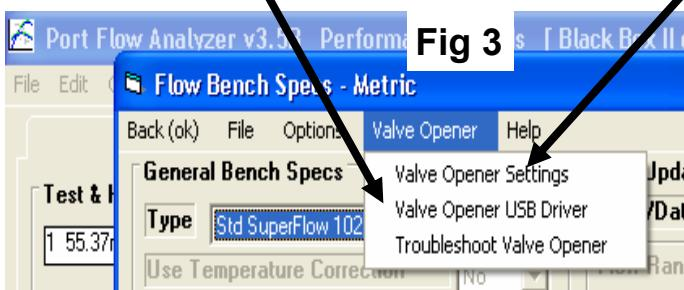
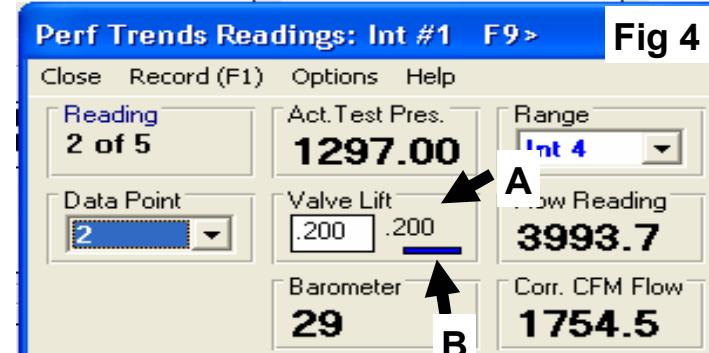
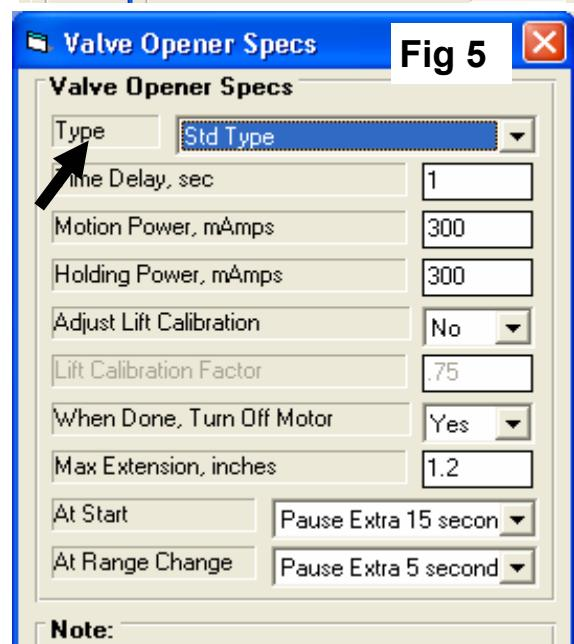

Fig 3
Fig 4
Fig 5
You need the Port Flow Analyzer Pro software v3.5 or later. You need a special unlocking code to activate this feature. Once this feature has been activated, you will see "Valve Opener" at the top of the Flow Bench Specs, as shown in Fig 3. **Click on Valve Opener, then Valve Opener USB Driver option to install the software driver necessary for the valve opener.** Then follow the program's instructions.
Then click on Valve Opener Settings as shown in Fig 3 to bring up the Settings screen shown in Fig 5. Click on Valve Opener and set the Type to "Std Type" to tell the program to look for a Valve Opener when you go into the Recording Screen (Fig 4). Other settings shown in Fig 5 are good defaults.
Testing Procedure: When you run a test, the Opener will find its Home (fully retracted) position, then extend out to find the tip of the valve and zero itself out. It will then move to the valve lift for the current "Data Point" you are on. It will wait the "Time Delay" shown in Fig 5, then record data. When finished, it will move to the next row and repeat until it encounters the first row where the Valve Lift is blank. Then it will retract to zero valve lift and see if any slippage has occurred, then retract about .050" more. It will then turn off the flow bench's motors if you have a FlowCom with motor controller and you've set this in Fig 5.
**Click here to get screen in Fig 5**
This is typically all you need to do and you will obtain Fig 5, saying the installation is complete.
On the next screen (Fig 3), click on Browse and browse the computer for the CD drive with the blue Performance Trends CD as shown in Figure 4. Then click OK on Fig 4 and then Next on Figure 3.
Then the computer should respond with Fig 5 saying the installation is complete.